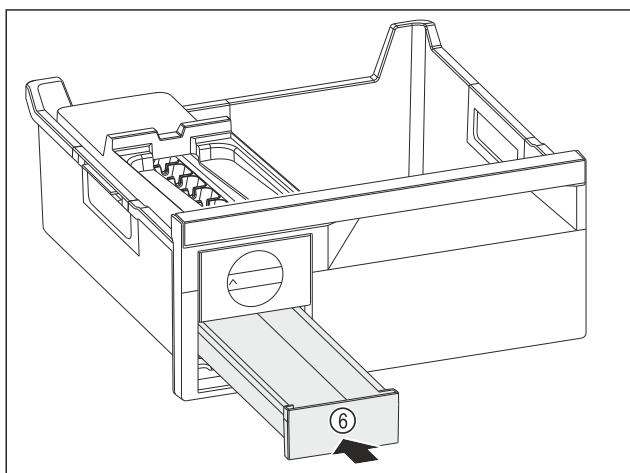

Fig. 188
- Insert the ice cube tray Fig. 188 (6).